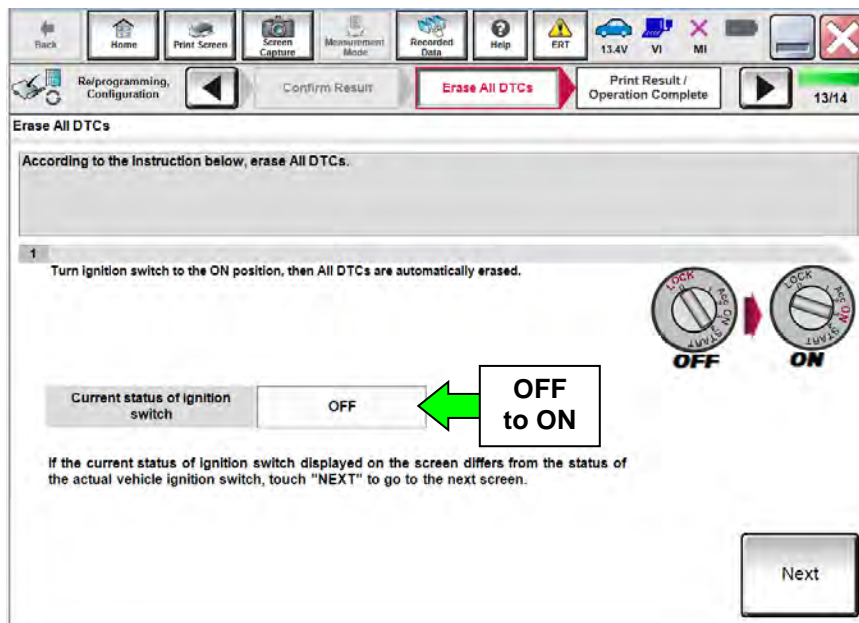

Figure 22
- The screen in Figure 22 will read **ON** after pressing the power switch twice.